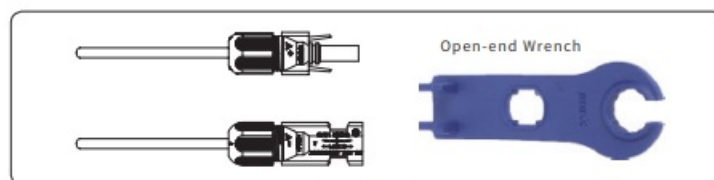

Figure 4-12
6. Use an open-end wrench to screw the nut to the end to ensure that the terminal is well sealed, as shown in Figure 4-12: